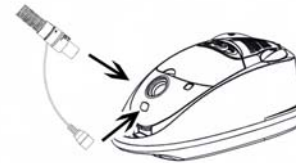

Fig. 1
1. Insert the flexible hose into the air intake duct. Push in until you hear a "click", indicating that it is locked in place. (Fig. 1)
2. Attach the connecting power cord to the connecting power cord receptacle on the vacuum. (Fig. 1)